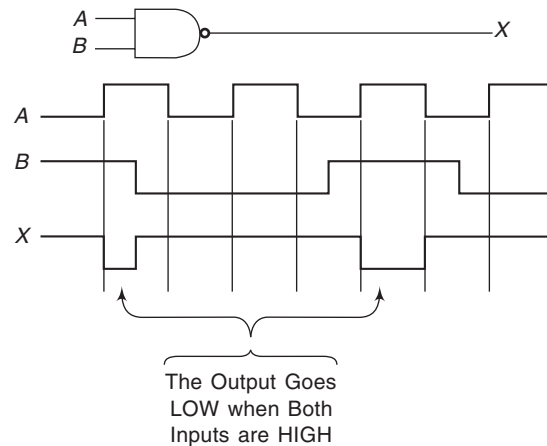

Fig. 4.48 Timing Analysis of a NAND Gate.
4.44 Sketch the output waveform at X for the NAND gate in Fig. 4.48.